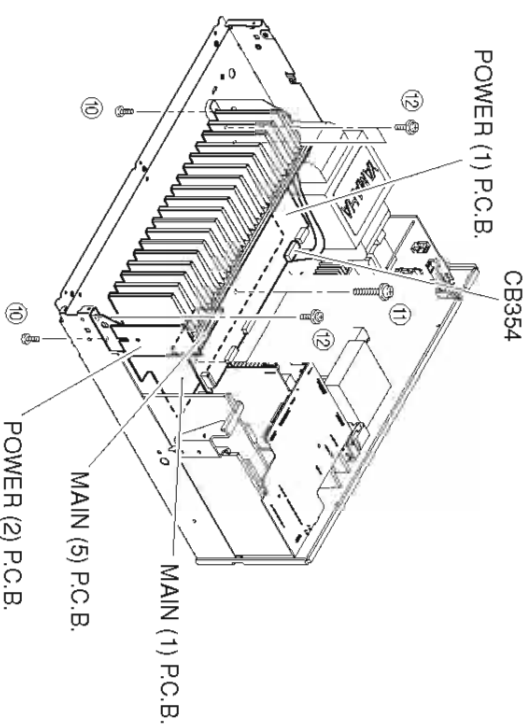

Fig. 5
7. Removal of MAIN (1), (5) and POWER (1), (2) P.C.B.s
- a. Remove CB354. (Fig. 5)
- b. Remove 2 screws (⑩), 2 screws (⑪) and 3 screws (⑫). (Fig. 5)
- c. Remove MAIN (1), (5) and POWER (1), (2) P.C.B.s. (Fig. 5)
7. MAIN (1), (5), POWER (1), (2) P.C.B.の外し方
- a. CB354を外します。(Fig. 5)
- b. ⑩のネジ2本、⑪のネジ2本、⑫のネジ3本を外します。(Fig. 5)
- c. MAIN (1), (5), POWER (1), (2) P.C.B.を取外します。(Fig. 5)